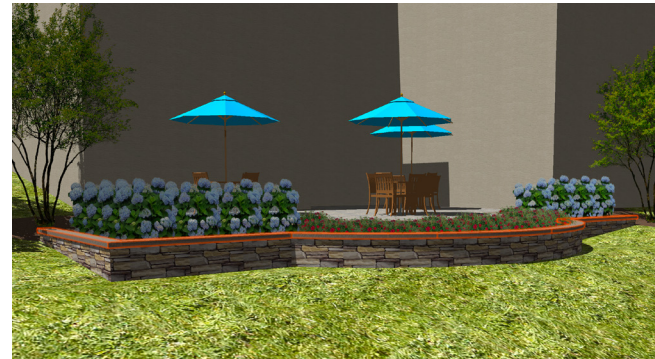

FIGURE 19A: Wall coping (extrude selected)
1. Select the object, group, or symbol instance (symbols that have been placed in the drawing) for assignment of IFC data (multiple items can be selected) (Fig. 19a).